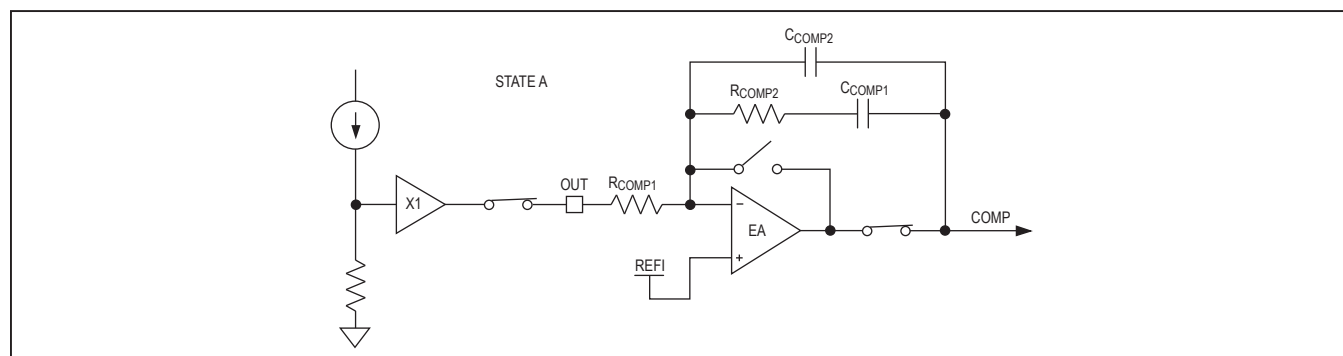
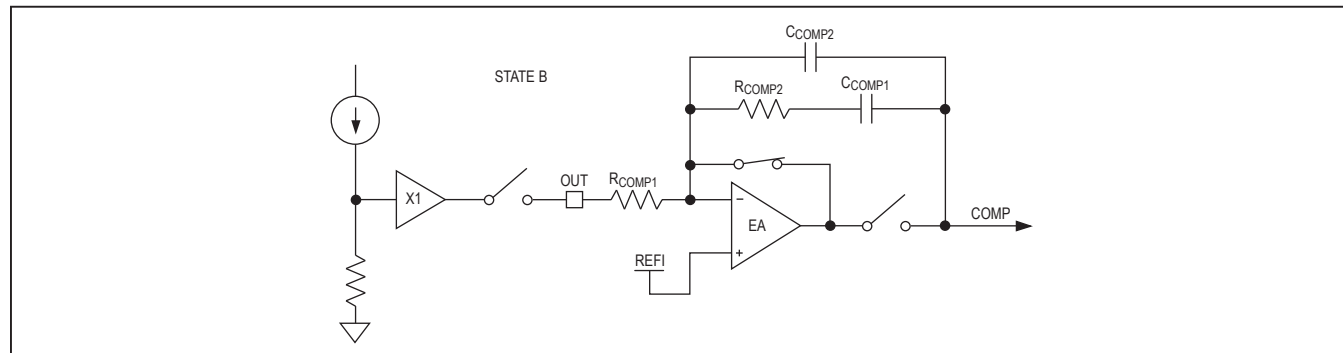
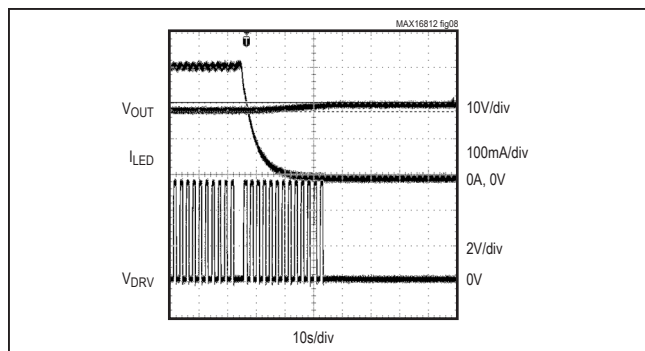

Figure 4. Internal Error Amplifier Connection (Dimming Signal High)
Figure 5. Internal Error Amplifier Connections (Dimming Signal Low)
Figure 8. LED Current, Output Voltage, and DRV Waveforms when DIM Signal Goes Low
The MAX16812 includes a built-in voltage-error amplifier, which can be used to close the feedback loop. The internal LED current-sense output signal is buffered internally and then connected to CS\_OUT through an internal switch. CS\_OUT is connected to the inverting input (FB) pin of the error amplifier through a resistor. See Figures 4 and 5. The reference voltage for the output current is connected to REF1, the noninverting input of the error amplifier. When the internal dimming signal
is low, COMP is disconnected from the output of the error amplifier and CS\_OUT is simultaneously disconnected from the buffered LED current-sense output signal (Figure 5). When the internal dimming signal is high, the output of the op amp is connected to COMP and CS\_OUT is connected to the buffered LED current-sense signal at the same time (Figure 4). This enables the compensation capacitor to hold the charge when the DIM signal has turned off the internal switching MOSFET gate drive. To maintain the charge on the compensation capacitors CCOMP1 and CCOMP2, the capacitors should be of the low-leakage ceramic type.
PWM dimming can also be achieved by connecting TGRM to a DC voltage less than  $V_{REF}$  and applying the PWM signal at DIM. The moment the internal dimming signal goes low, gate drive DRV to the internal switching MOSFET is turned off. The error amplifier goes to state B (see the *Internal Error Amplifier* section and Figures 4 and 5). The peak current in the inductor prior to disabling DRV is  $I_{LX}$ . Gate drive DGT to the external dimming MOSFET is held high. Then after a switchover period, gate voltage  $V_{DGT}$  on the external dimming MOSFET is linearly controlled to reduce the LED current to 0. The fall time of the LED current is controlled by an internal timing circuit to 5μs for the MAX16812. During this period, the gate (DRV) to the internal switching MOSFET is enabled. After the fall time, the gate drive to the external dimming MOSFET is turned off and the gate drive to the internal switching MOSFET is still held high after the switchover period. The peak current in the inductor is controlled at  $I_{LX}$ . Then after a time period of 20μs, the gate drive is disabled. The scope shots in Figures 8–11 show the dimming waveforms.
When the DIM signal goes high, the LED current is gradually increased to the programmed value. The rise time of the LED current is controlled to  $5\mu\text{s}$  for the MAX16812 by controlling the voltage on DGT. After the rise time, an internal sensing circuit monitors the voltage across the drain to the source of the external dimming MOSFET. The LED current is now controlled at the programmed value by a linear current regulating circuit. Once the voltage across the drain to source of the dimming MOSFET drops below 0.5V, the reference for the linear current regulating circuit is increased to 1.1 times the programmed value. The gate drive (DRV) to the internal switching MOSFET is enabled and the error amplifier is returned to state A (see the *Internal Error Amplifier* section and Figures 4 and 5).